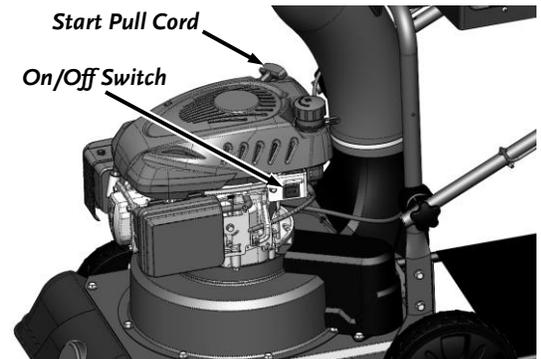
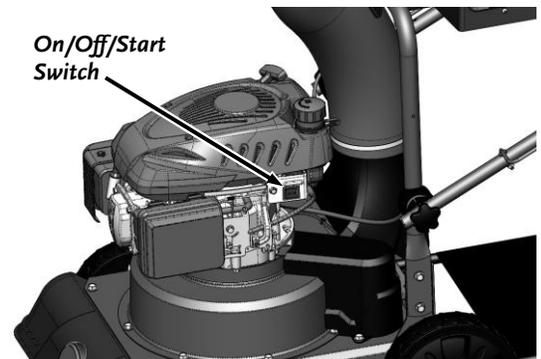

Figure 22
Figure 23
1. Press the On/Off Switch to the ON position (**Figure 22**).
1. Press and hold the Ignition Switch to the start position until the Engine starts and then release (**Figure 23**). The Switch will go back to the central run position and the Engine will continue to run.
2. Press the On/Off Switch to the OFF position (**Figure 22 and Figure 23**).